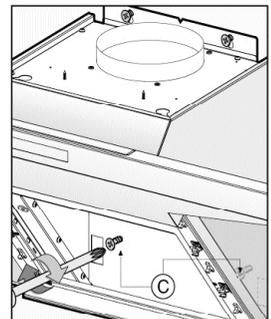

Fig.8
- Once the adjustment has been completed, fix the hood using the two screws C (fig 8).